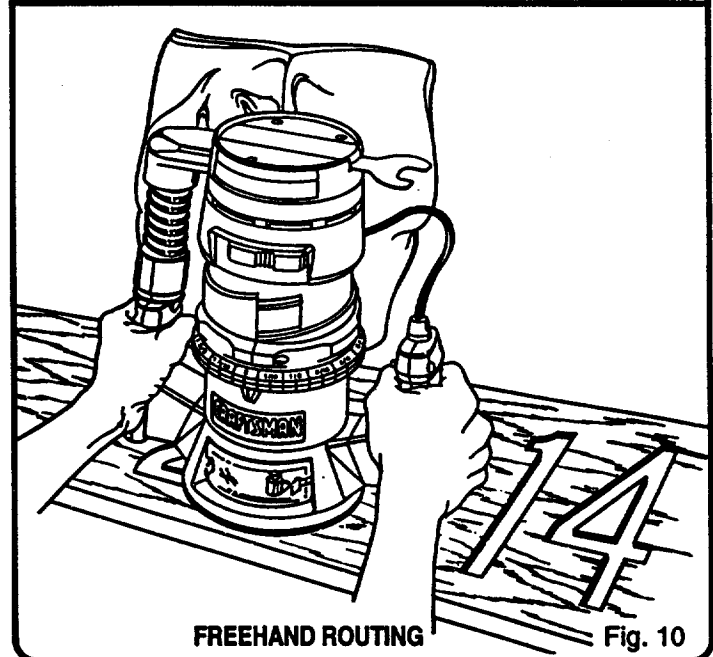

Fig. 10
See Figure 10.
- Routing letters, grooves, and patterns into wood. See Figure 10.